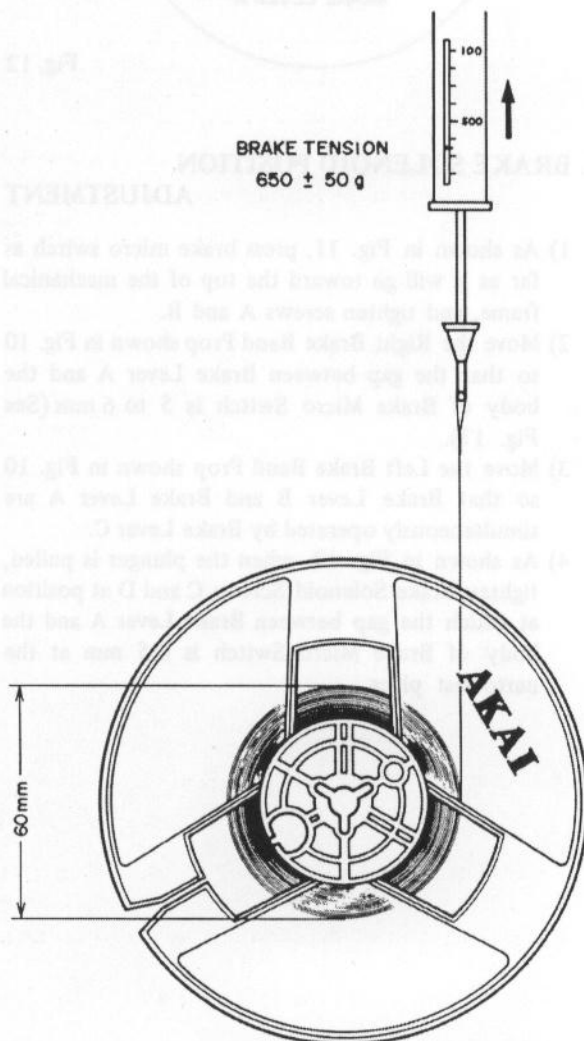

Fig. 14
- 1) As shown in Fig. 14, brake tension is measured with a spring gauge using a 60 mm diameter tape wound on a 5" reel. Ideal brake tension is  $650 \pm 50$  gr, and left/right deviation allowance should be within 50 gr.